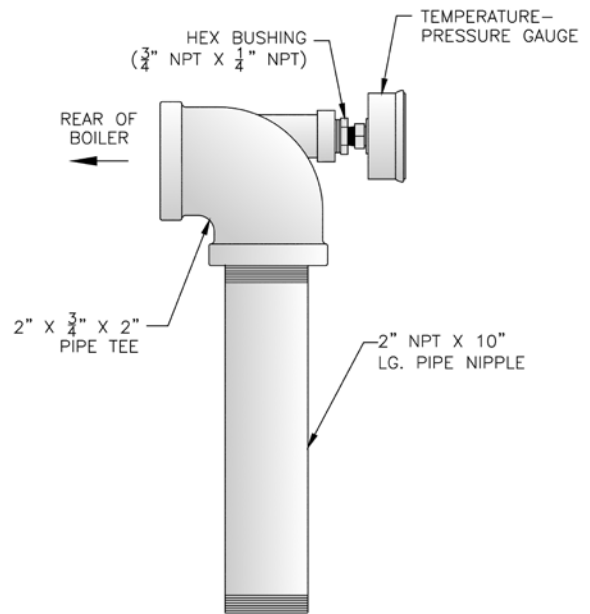

Figure 19: Alternate Temperature-Pressure Gauge Installation
2. Alternate Temperature-Pressure Gauge Piping. See Figure 19.